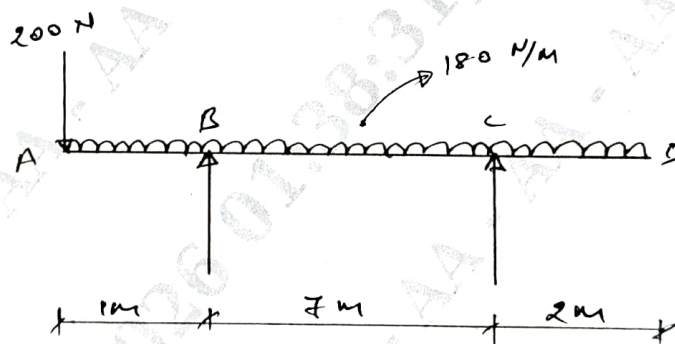

Fig.Q8
- 8 A simply supported beam is loaded as shown in Fig.Q8. Calculate SF and BM and locate the point of contraflexure.